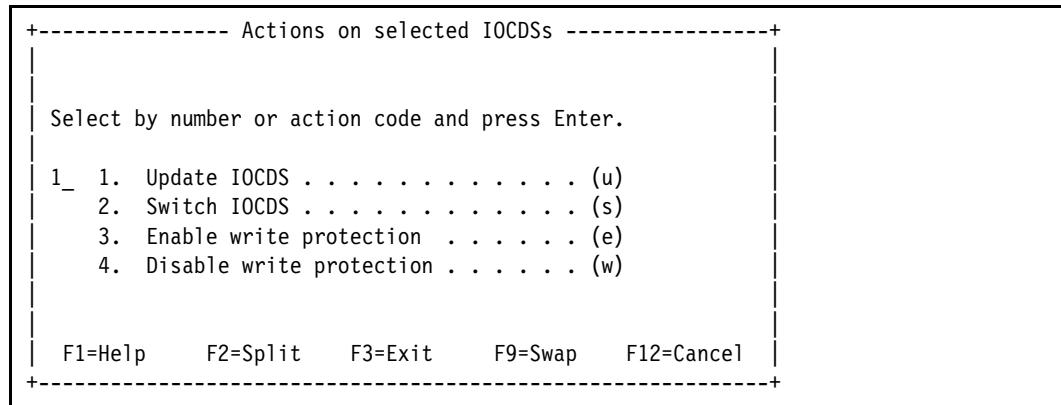

Figure 5-11 Actions on selected IOCDSSs: Update IOCDs
6. The Actions on selected IOCDSSs panel opens (Figure 5-11). Select option **1. Update IOCDs** and press **Enter**.